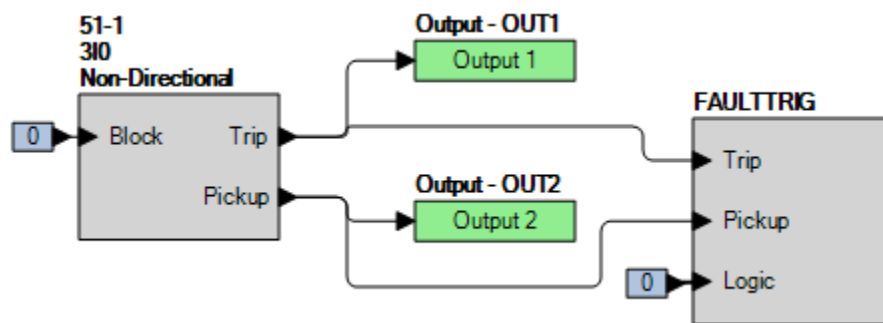

Figure 65-2. BESTlogicPi+ Settings (3I0 Mode)
Step 2: Use BESTCOMSPi+ to configure the BESTlogicPi+ programmable logic shown in Figure 65-2.
- Step 4: Prepare to monitor the 51-1 function operation. Operation can be verified by monitoring OUT2 (see Figure 65-2).